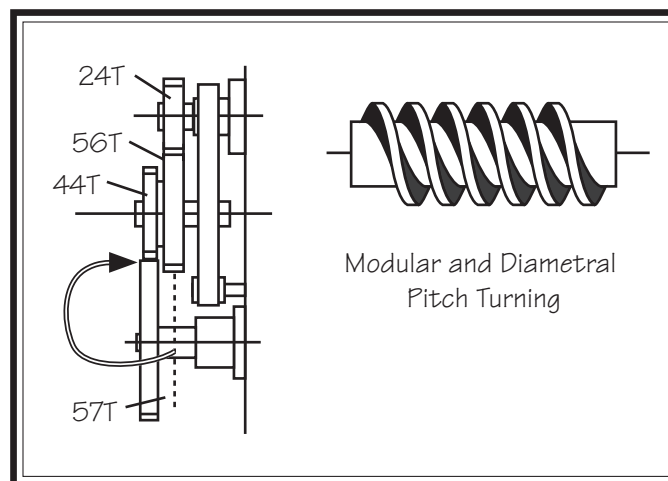

Figure 87. Alternate end gear position.
When the 44- and 57-tooth end gears are meshed (see **Figure 87**), you can perform modular and diametral pitch turning.
- c. Swap the position of the gear, as shown in **Figure 87**, then align it with the key and insert it on the gear shaft.